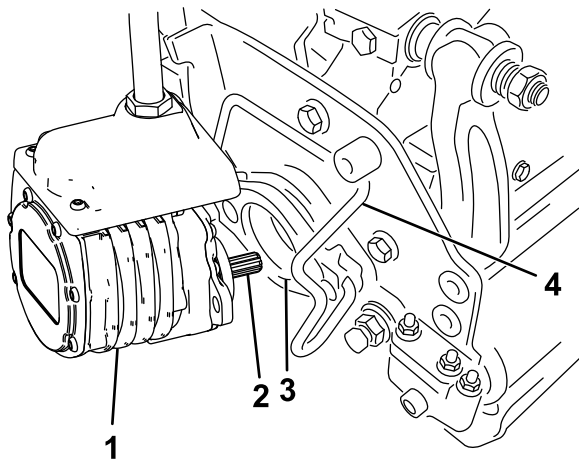

Figure 63
6. Coat the spline shaft of the cutting unit motor with clean grease (Figure 63).
7. Insert the motor into the left side of the cutting unit (as viewed from the operator's position) and pull the motor retaining bar on the cutting unit toward the motor until you hear a click from both sides of the motor (Figure 63).